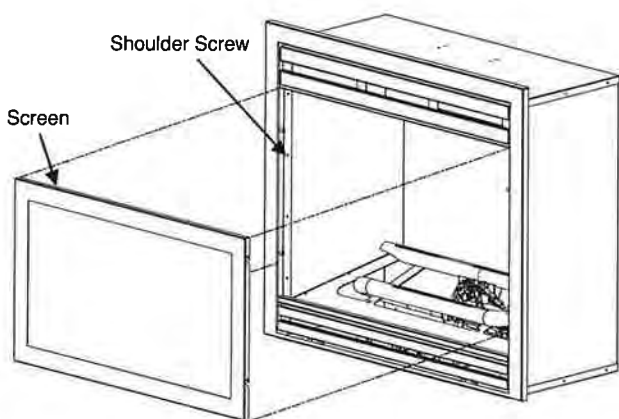

Fig. 2 - Removing and Installing Screen
1. If equipped, lift fireplace screen up and pull out to remove (See Fig 2). Set screen aside until installation has been completed.